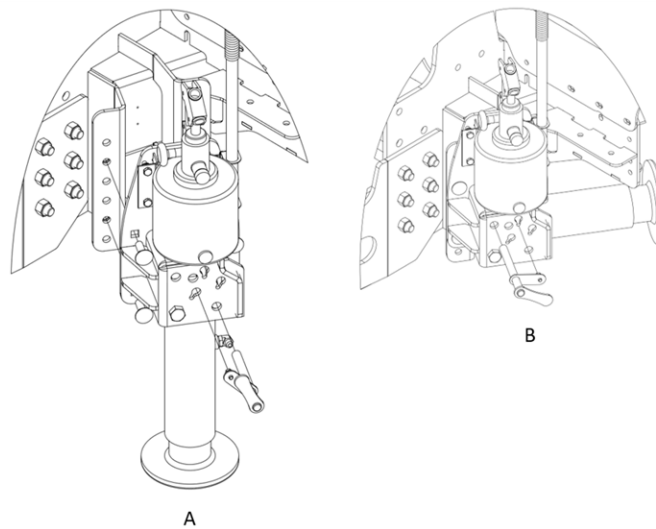

Figure 12 — Hydraulic Jack Extended (A) and in Transport Position (B)
5. Put the trailer jack in transport position (Figure 12).
3. Put the jack in vertical position (Figure 12).